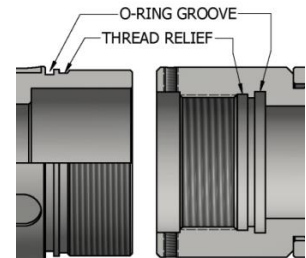

Fig. 2
**CAUTION6:** To ensure tool operates properly, install o-rings in o-ring grooves **NOT** thread relief (Fig. 2).